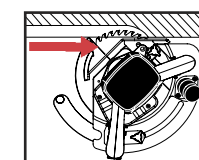

Figure 10
- Cut towards the corner at a 45° angle until the saw meets the right wall (see figure 10).